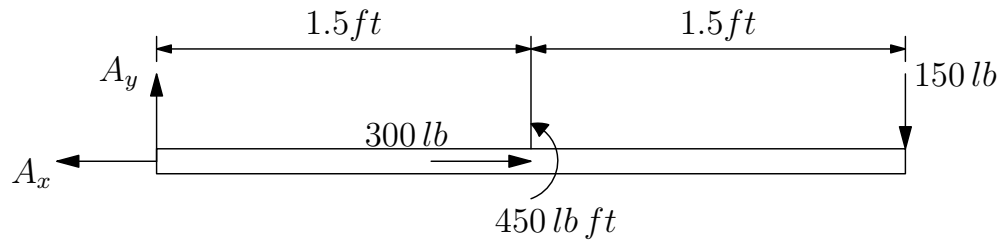
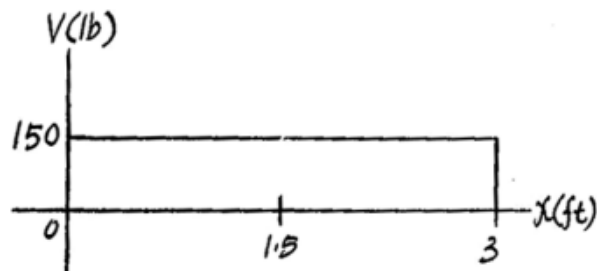

Figure 14
Figure 15
**Shear and Moment Diagram:** The couple moment acting on B due to  $D_x$  is  $M_B = 300 \times 1.5 = \mathbf{450\ lb\text{-}ft}$ . The loading acting on member ABC is shown in Fig. 14 and the shear and moment diagrams are shown in Figs. 15 and 17.